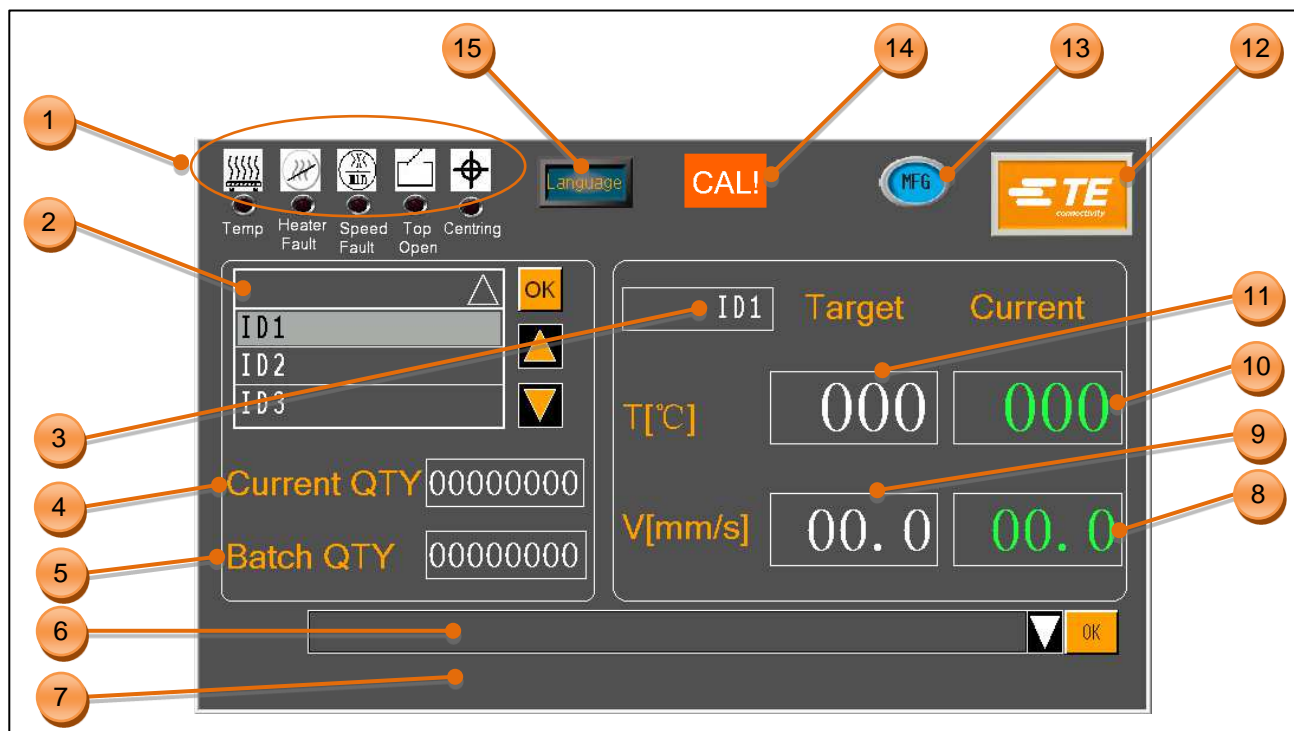

Figure 12: Main Interface
In touch panel, select the preset heating parameter which stored in touch panel (see Figure 12, item 2 process number), to check if machine will change the temperature and belt speed accordingly.